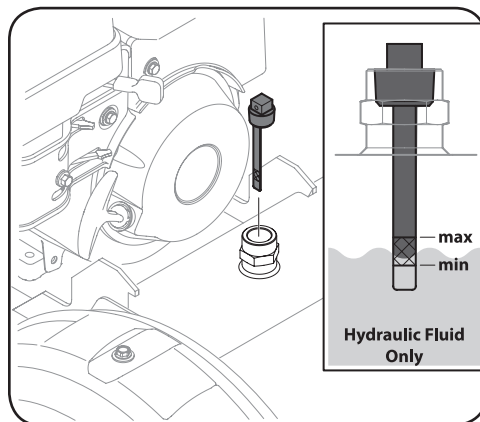

Figure 3-9
2. Use a wrench to remove the vented dipstick, which is located in front of the engine on top of the reservoir tank. See Figure 3-9.
3. Check the fluid level using the dipstick. See Figure 3-9. Do not overfill.